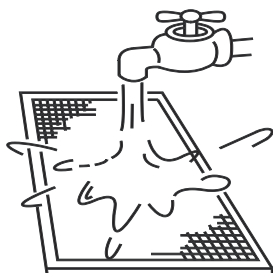

Figure 14.3
- The air intake side should face down when using clean water. (Refer to Figure 14.3)